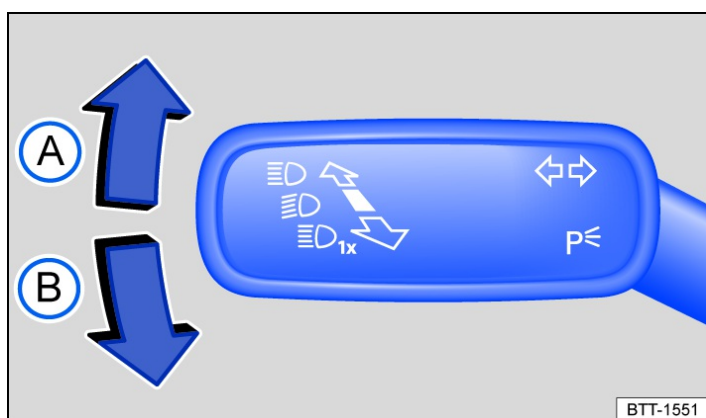

Fig. 1 On the left-hand side of the steering column: turn signal and main beam lever.
- Move the turn signal and main beam lever from the centre position to the following position → Fig. 1: